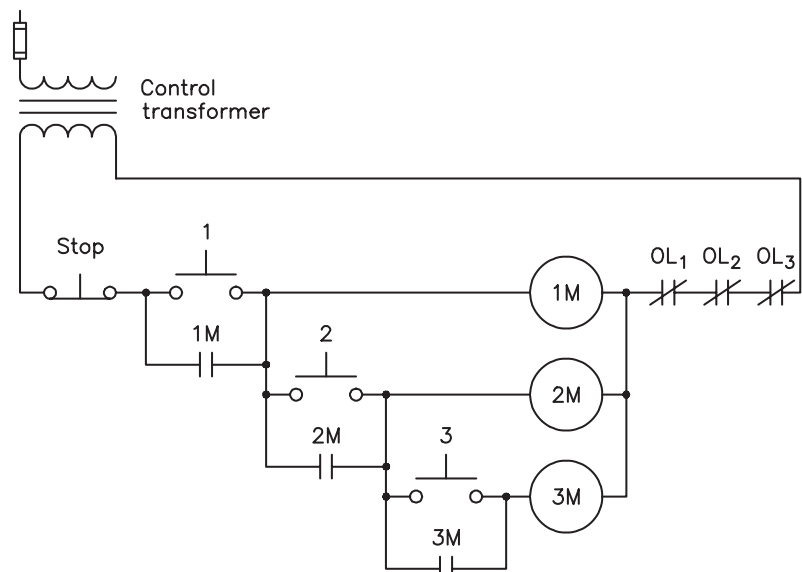

Figure 29-1 First example of starting the motors in sequence.
As a general rule, there is more than one way to design a circuit that will meet the specified requirements, just as there is generally more than one road that can be taken to reach a destination. One design that will meet the requirements is shown in Figure 29-1. Since the logic of the circuit is of primary interest, the load contacts and motors are not shown. In this circuit, push button #1 must be pressed before power can be provided to push button #2. When motor starter #1 energizes, the normally open auxiliary contact 1M closes, providing power to coil 1M and to push button #2. Motor starter #2 can now be started by pressing push button #2. Once motor starter #2 energizes, auxiliary contact 2M closes and provides power to coil 2M and push button #3. If the stop button should be pressed or any overload contact open, power will be interrupted to all starters.
4. Using the schematic diagram shown in Figure 29-1, add wire numbers to the schematic.
6. Connect the circuit shown in Figure 29-1 by following the wire numbers placed on the schematic.